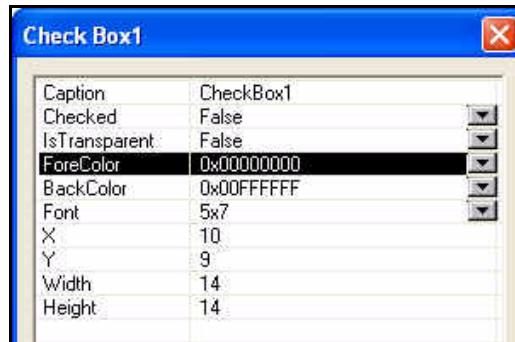

Figure 2-23 Check Box Properties Box
4. Double click the Check Box to open the Check Box properties box to configure the look and action of the box (*Figure 2-23*).